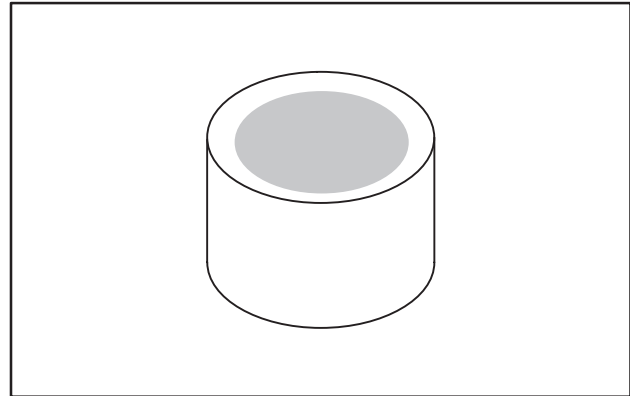

Fig. 20 – Check Valve Stem Cap
8. Inspect valve stem cap for wear, Fig. 20.